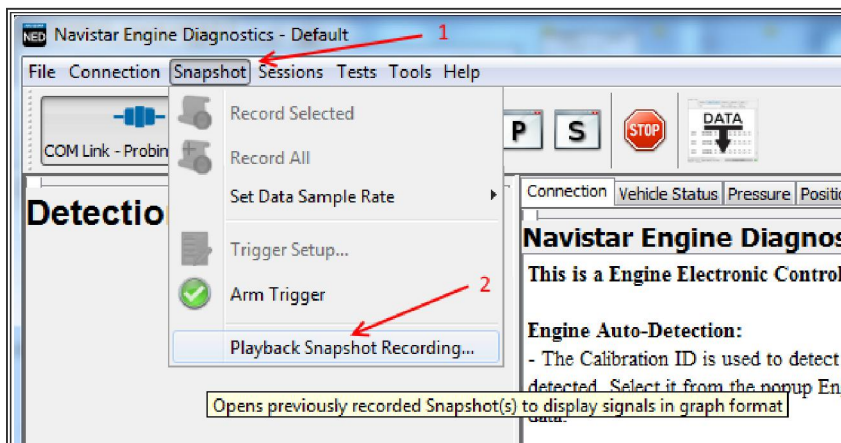

Figure 2: Playback AMT Snapshot using NED
3. Open the recorded AMT snapshot using NED - Top Menu > Snapshot > Playback Snapshot Recording : Figure 2